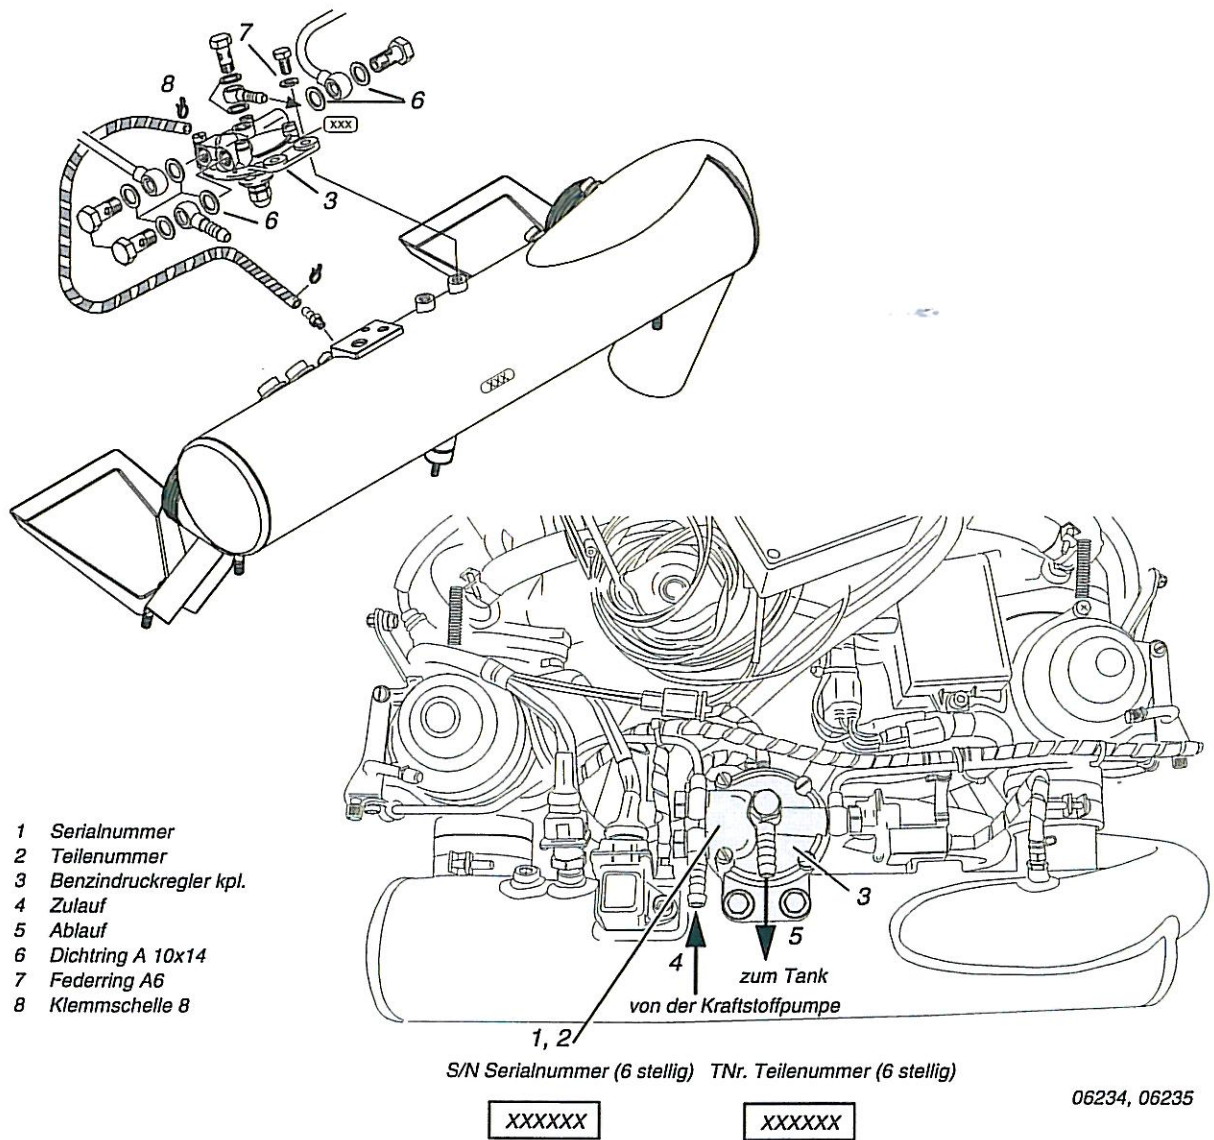

BILD 1
(Siehe dazu Bild 1)
- ◆ **NOTE:** The corresponding serial number (1) and part number (2) is visible on the flange of the fuel pressure regulator assy. (3) (see fig. 1).